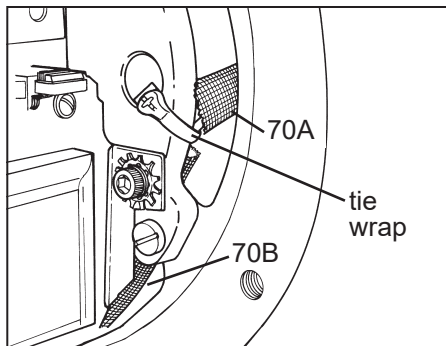

Figure 2
- To protect wire insulation, slide fiberglass tubing (70A) over underside of support plate lead wires and into endplate lead wire outlet hole until it touches the elbow. (See *Figure 2*.)
- Mount support plate assembly (142) to endplate using screws and conical spring washers (142S and 142W). Flat washer (142X) is installed under the conical spring washer. Torque these screws (142S) to 50 lb-in nominal. Be sure the assembly is mounted with the solenoid plunger above the solenoid frame on horizontally installed brakes. (See *Installation*, Note.)
- Using tie wrap provided, install tie wrap so that wires are held away from pressure plate as shown in *Figure 2*.